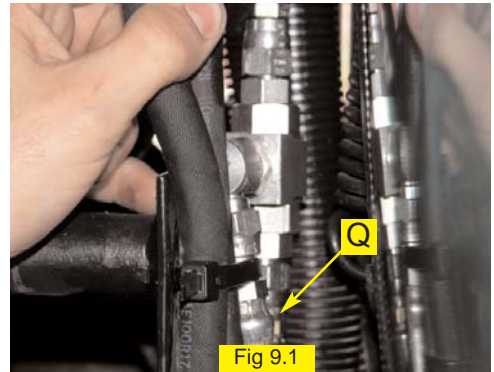

Fig 9.1
Install the hydraulic hose (Q) between the LS port of the hydraulic control block and the open end of the load sense shuttle assembly installed in step 8. (Figure 9.1 and 9.2) Use a heavy tie strap (included) to secure load shuttle assembly to the tractor framework as shown.